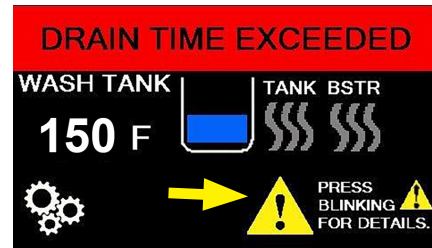

Fig.15 - Error screen with blinking icon
1. If the machine does not drain completely in the allotted time then 'DRAIN TIME EXCEEDED' and a blinking fault icon appear, (Fig.15).